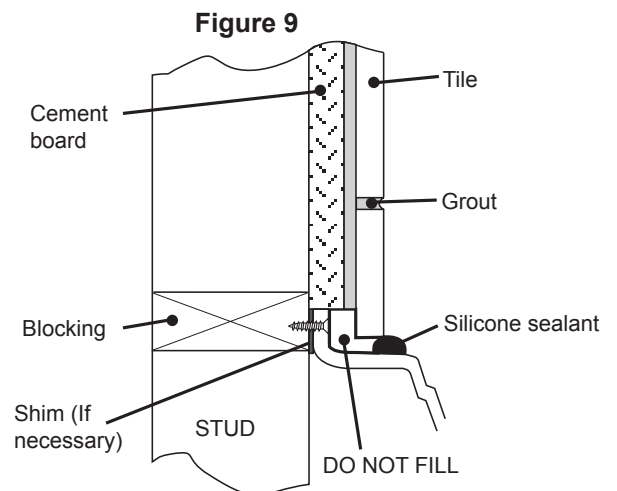

Figure 9
- 10** Filling the area marked "Do Not Fill" in Figure 9, will prevent moisture from draining back to the base through the weep holes, see Figure 9. Such moisture is due to leakage through the tile grout. Sealing the tile grout will prevent this leakage.